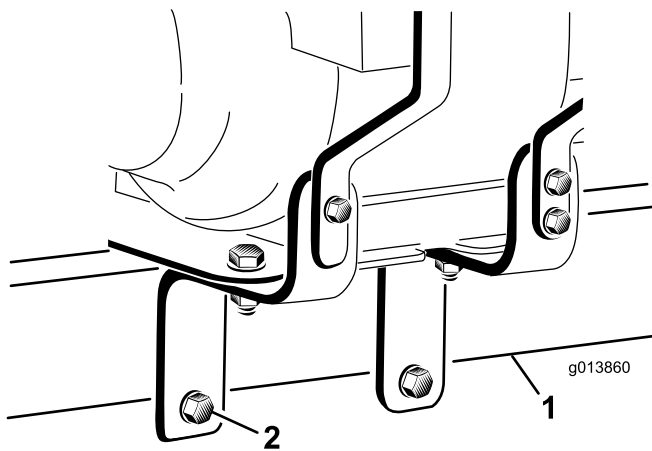

Figure 7
20. Insert the (2) 1/2 x 5 inch bolts through the engine mount bracket holes ensuring that a flat washer is fitted against each outer face of the engine mount bracket and ensuring that the bolts pass clear beneath the bottom of the ProPass hitch tube. Hand tighten the (2) 1/2 inch nuts (Figure 7).